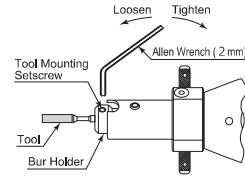

Fig. 4
- ① Insert a tool (less than  $\phi 3.2\text{mm}$ ) into the bur holder and tighten the tool mounting setscrew with the provided allen wrench (2mm), (Fig. 4)